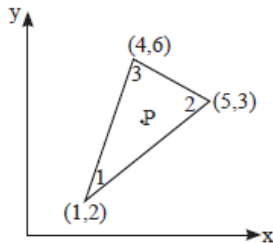

fig 1
**1 a** The nodal co-ordinates of a triangular element are shown in fig 1. The x - coordinates of an interior point P is 3.3 and shape function.  $N_1 = 0.3$ . Determine  $N_2$ ,  $N_3$  and y - coordinate point P.